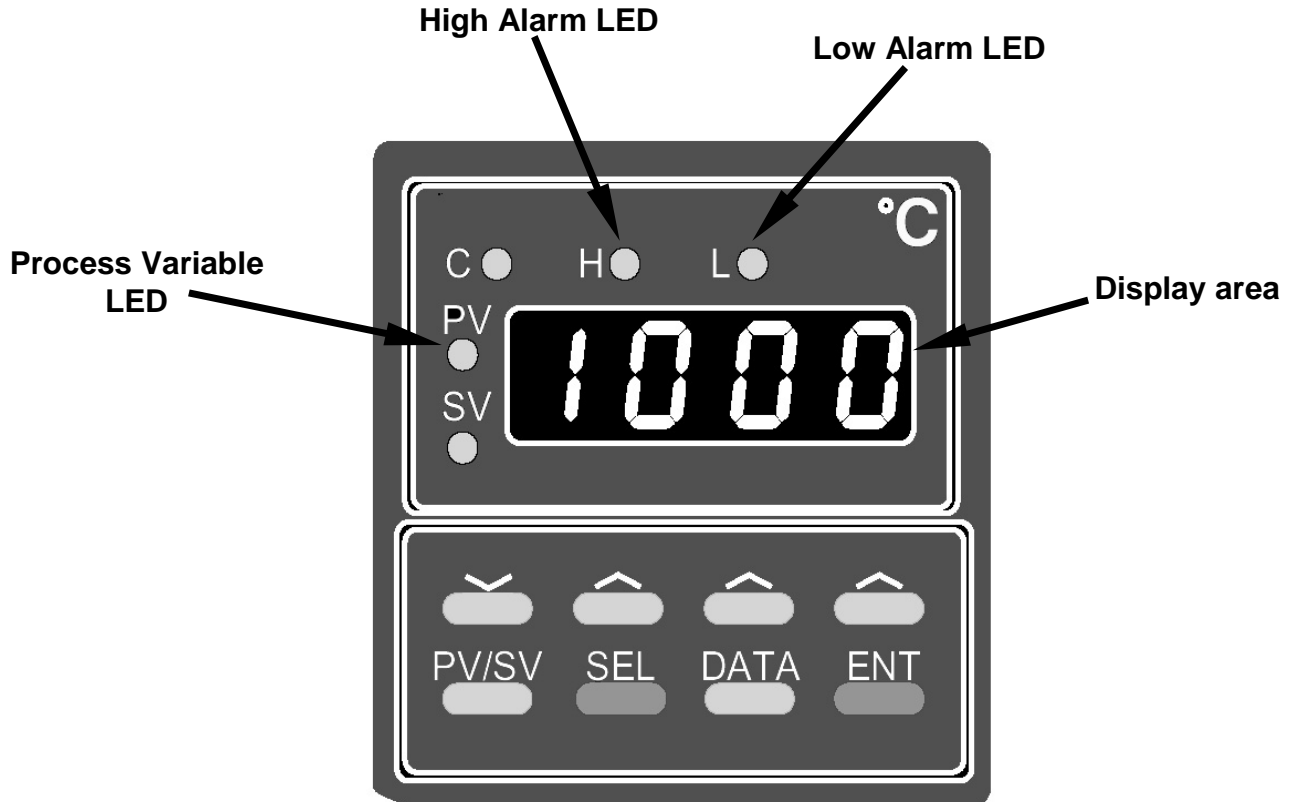

Figure 3-12: M501-TRS Temperature Controller Startup
The M501-TRS' temperature controller is preprogrammed at the factory so no special setup operation is required. The temperature controller (see Figure 3-12) should immediately come on in operation mode: the current temperature of the converter oven should the display immediately appear in the display area and the process value (PV) LED should be lit.